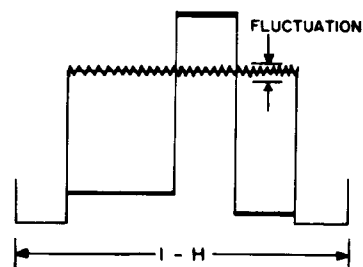

Figure 4-1 VR502 Alignment
- 4) Adjust VR502 to obtain a minimum fluctuation (A straight line) as shown in figure 4-1.